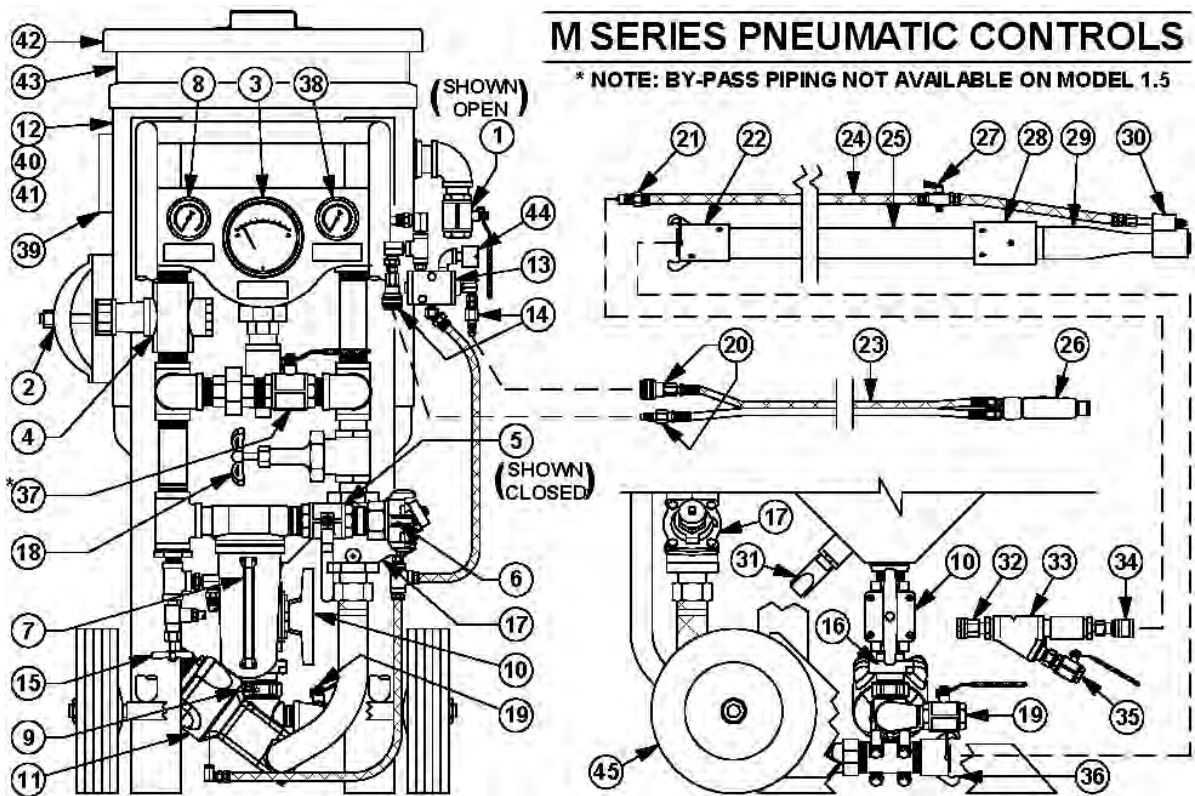

Figure 7.3 – Typical M Series Abrasive Blaster
7.2 Beginning the Blasting Operation (See Figure 7.3)
- 7.2.12. To operate at full pressure (without the restriction of the regulator) open the bypass ball valve (#37). This allows full air pressure into the control piping regardless of the air regulator adjustment. See Figure 7.3. **Note:** Bypass piping is not available on the M11.
7.3 Ending the Blast Operation (See Figure 7.3)
- 7.3.1. Close the air inlet ball valve (#5). The ball valve is closed when the handle is fully turned to the position shown in Figure 7.3 (handle perpendicular to body). The handle tab will bottom against the ball valve body in the closed position.